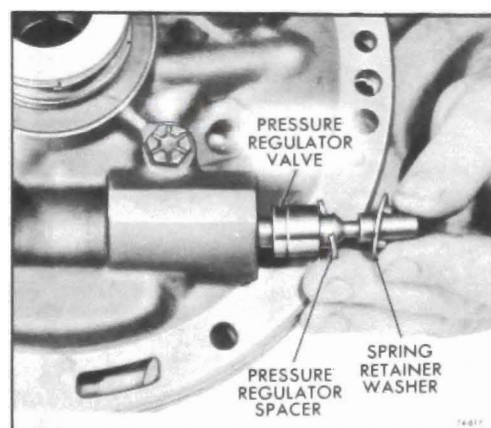

Figure 76-616
5. Remove the regulator valve, spring retainer and spacer(s), if present. See Figure 76-616.